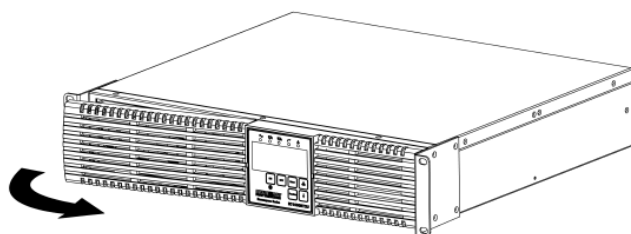

FIG. 1
2. Grasp the battery door on the left-hand side, pull it outward and then set it aside (FIG. 1).